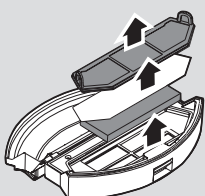

Fig. 16
4. Remove all filter components and clean them separately. The assembly is done in reverse order. [Fig. 16]